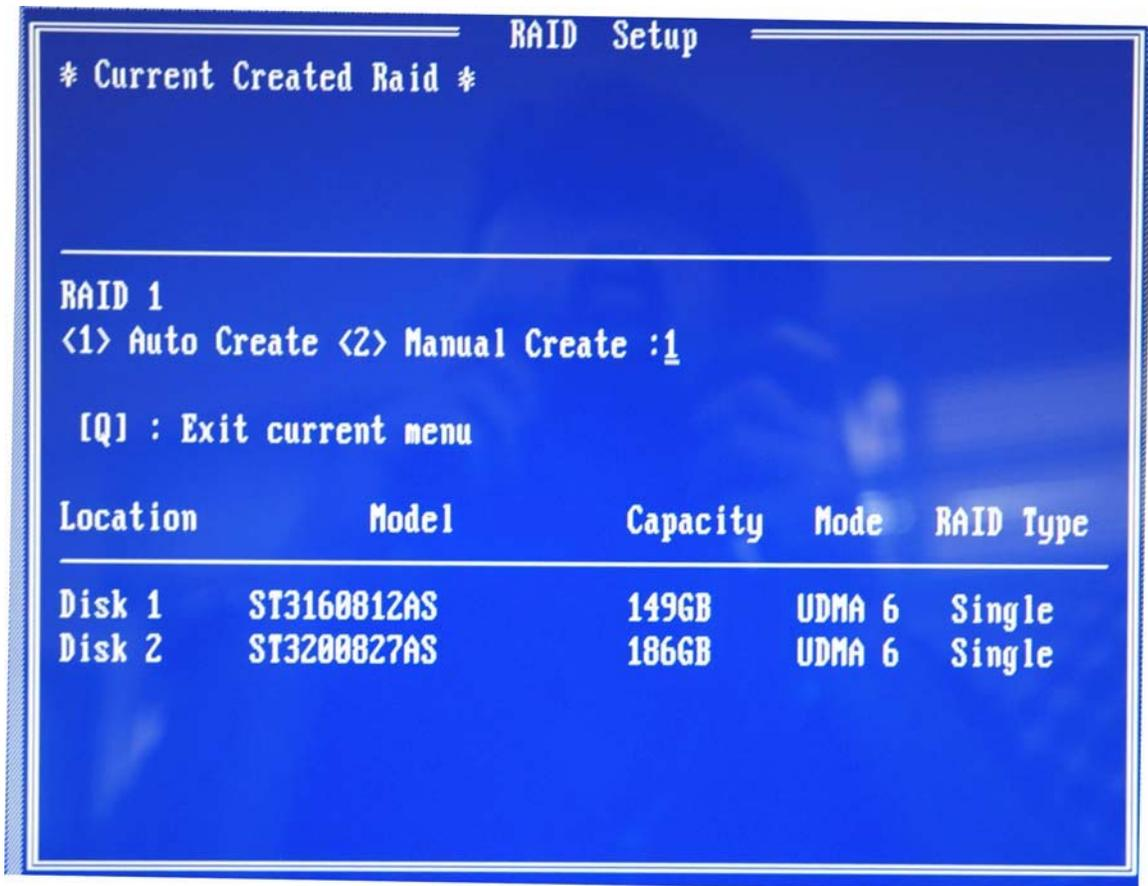

Figure D-7: Select “Auto”
Step 6: The system then prompts the user to “**Auto Create**” or “**Manual Create**” (see **Figure D-7**).